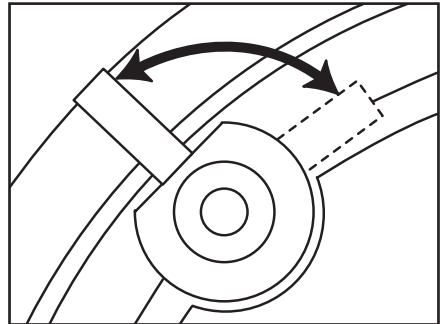

Figure 3. Mounting "dog" rotation.
9. Tighten the mounting dogs by using a #2 Phillips head screwdriver. If using a cordless drill, utilize a low torque setting and low speed. (see **Figure 3**)